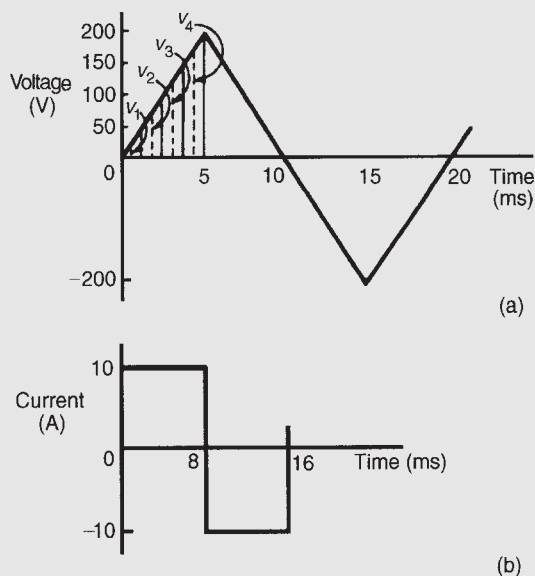

Figure 14.5
**Problem 4.** For the periodic waveforms shown in Fig. 14.5 determine for each: (i) frequency (ii) average value over half a cycle (iii) r.m.s. value (iv) form factor and (v) peak factor.
(a) **Triangular waveform** (Fig. 14.5(a)).
(iii) In Fig. 14.5(a), the first 1/4 cycle is divided into 4 intervals. Thus
(b) **Rectangular waveform** (Fig. 14.5(b)).